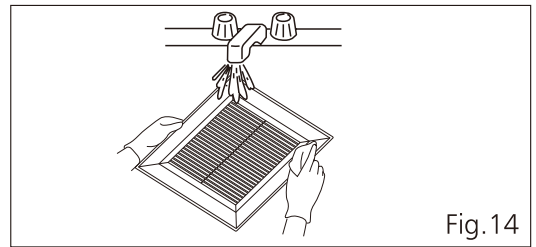

Fig. 14
2. Wash and clean grille. (Don't put into hot water. Use non-abrasive kitchen detergent. Wipe dry with clean cloth.) (Fig.14)